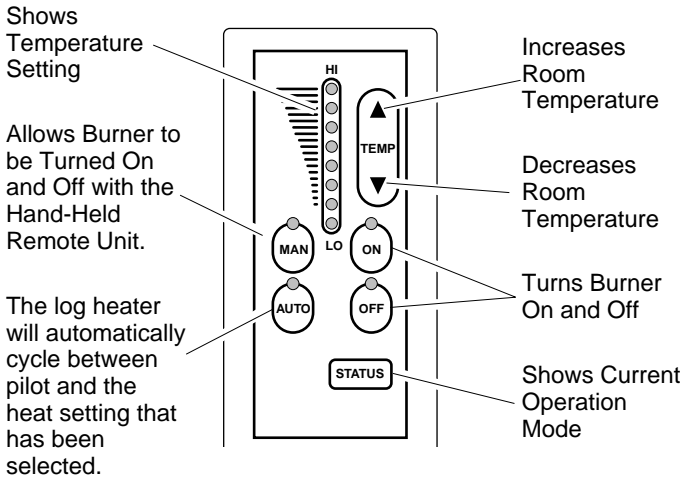

Figure 28 - Thermostat Hand-Held Remote Control Unit Selections (CGHRCT only)
- 2b. Select the MAN (manual) or AUTO button on the hand-held remote control unit (see Figure 28, page 17).
3. Use the STATUS button on the hand-held remote control unit to see the operation mode being used and the temperature setting selected. A red light will come on beside the operation mode being used when the status button is pressed (see Figure 28, page 17).
4. To turn the burner off when operating in the manual mode, press the OFF button. If operating in the auto mode, press the MAN button, then press the OFF button. The pilot will remain lit (see Figure 28, page 17).